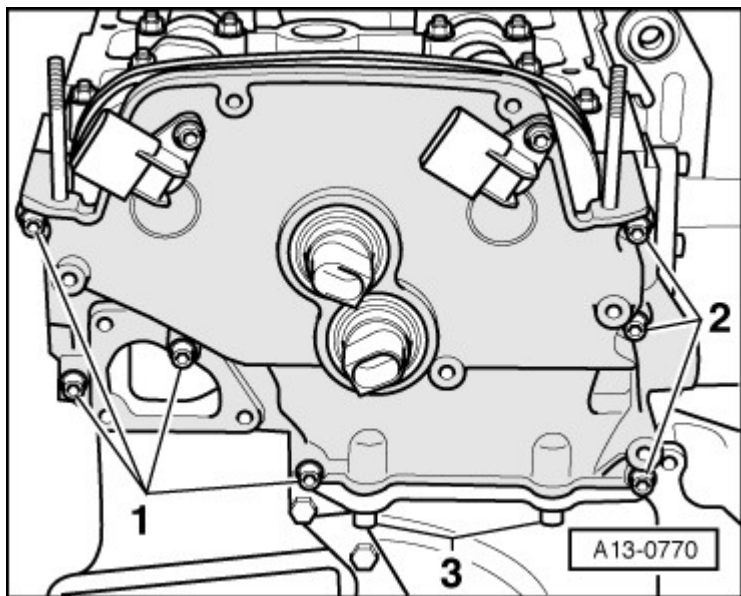

Fig. 7: Identifying Cylinder Head Cover Bolts
- Tightening specifications, refer to **Fig. 7**
- Tightening specifications and tightening sequence, refer to **Fig. 7**